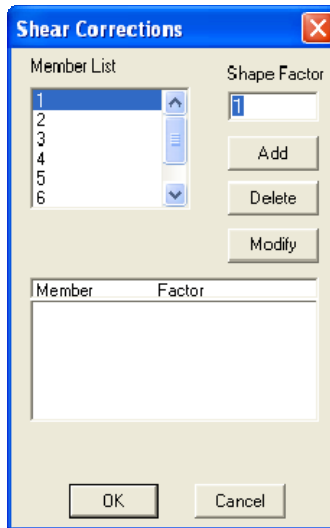

Figure 3-27 Shear Corrections dialog box
- From the Process menu, select Shear Corrections. The dialog box of Figure 3-27 appears.